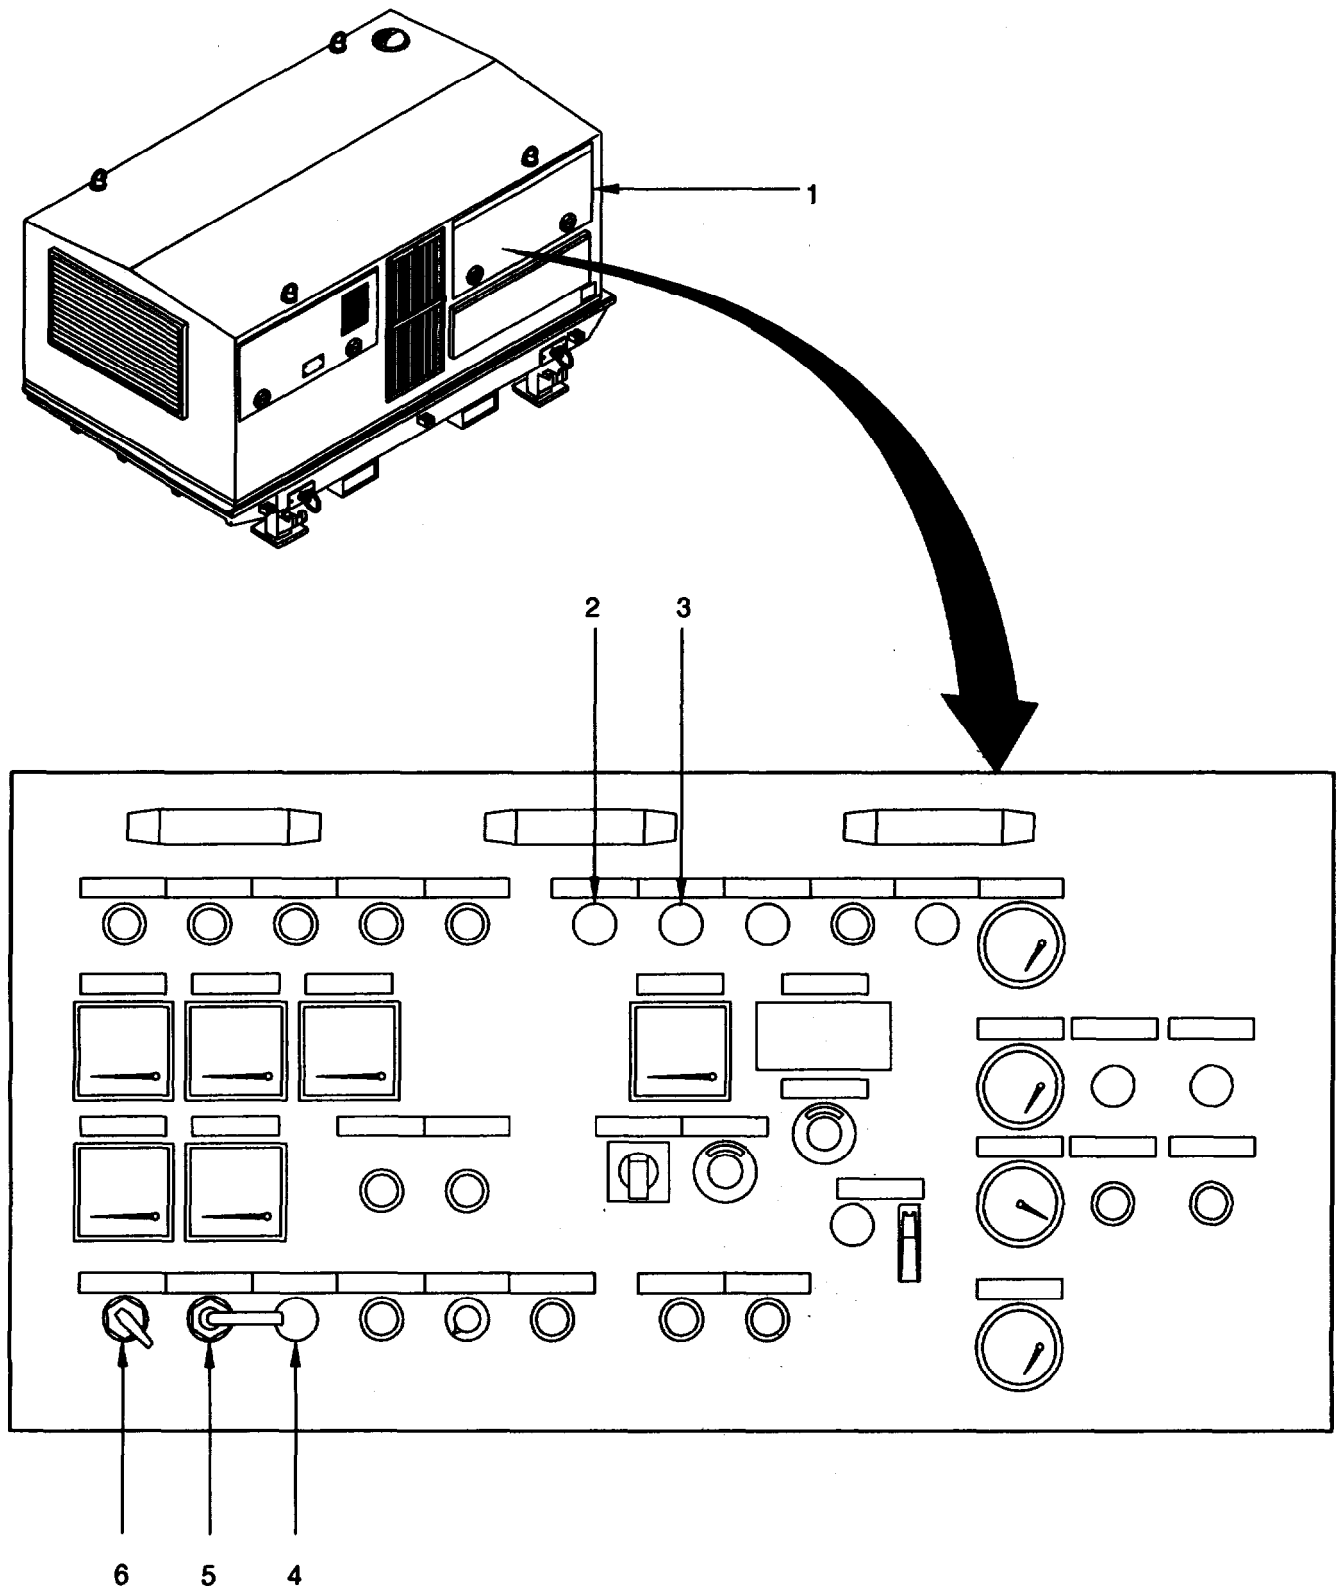

Figure 2-28 Operating the Flame Glowplug System.
- e. The READY TO START IF HEATING IS ON lamp (4) lights up after about 13 minutes. The diesel engine can be started (the fan motor will continue to run for about 90 seconds).
- f. If the HEATING ON lamp lights up before the READY TO START IF HEATING IS ON lamp (4) lights up, press the HEATING ON illuminated pushbutton switch (6) again.
- g. If the diesel engine is started before the READY TO START IF HEATING IS ON lamp (4) lights up, shut down the heating system with the HEATING OFF pushbutton switch (7). Refer to TM 9-6116-668-13, Chapter 3, Section II if the HEATING FAILURE lamp (5) lights up, or if the READY TO START IF HEATING IS ON lamp (4) does not light up (i.e. the engine preheating assembly is not operating properly).
- b. Open flap (1, figure 2-28): control cabinet assembly controls and indicators are accessible.
- c. Set MASTER SWITCH (6) to ON (Position Four):